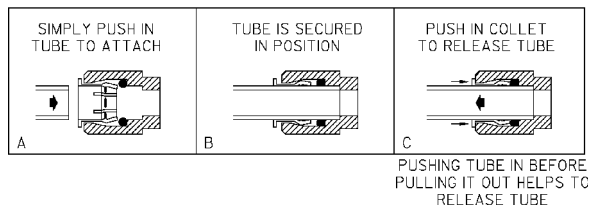

Figure 20 – Quick Connect Fittings
**Actuation of Quick Connect Water Fittings:** Cooler is provided with lead-free connectors which utilize an o-ring water seal. To remove tubing from the fitting, relieve water pressure, push in on the gray collar while pulling on the tubing. (See Figure 20) To insert tubing, push tube straight into fitting until it reaches a positive stop (approximately 3/4").